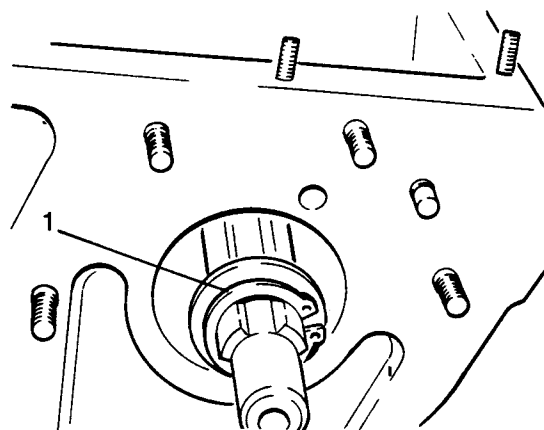

Fig H2.26
- (4) Refer to Fig H2.26. Fit the thrust washer and circlip (1).